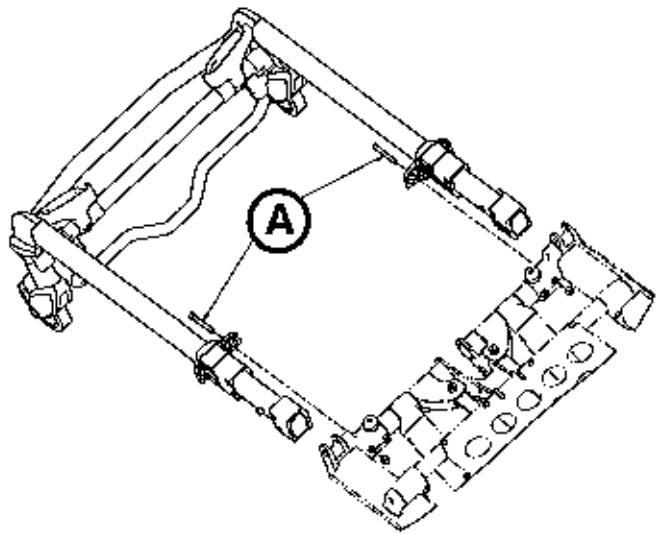

Figure 99
2. Using a 7/16" combination wrench and a 3/16" hex wrench, remove the two screws (A) that secure the cap bearings to the base litter interface bracket (one on each side) (Figure 99).